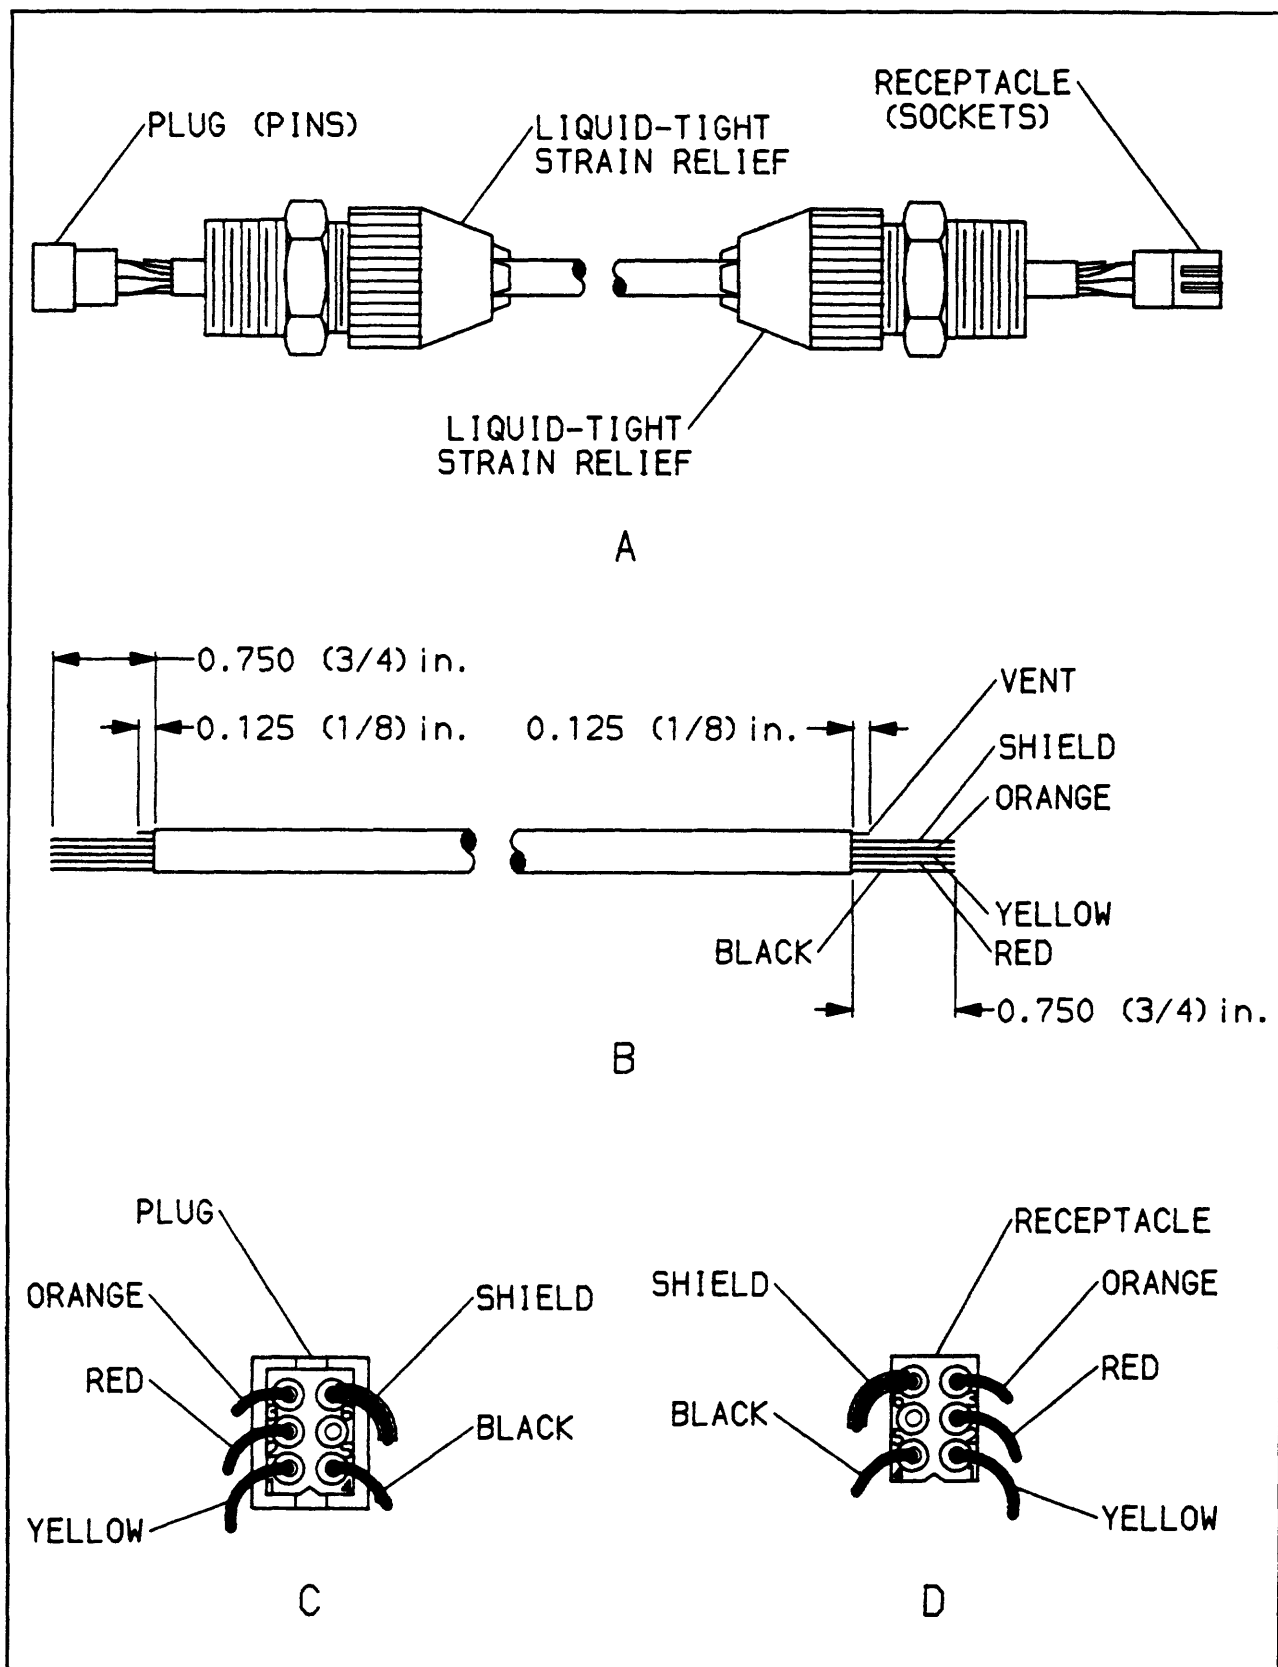
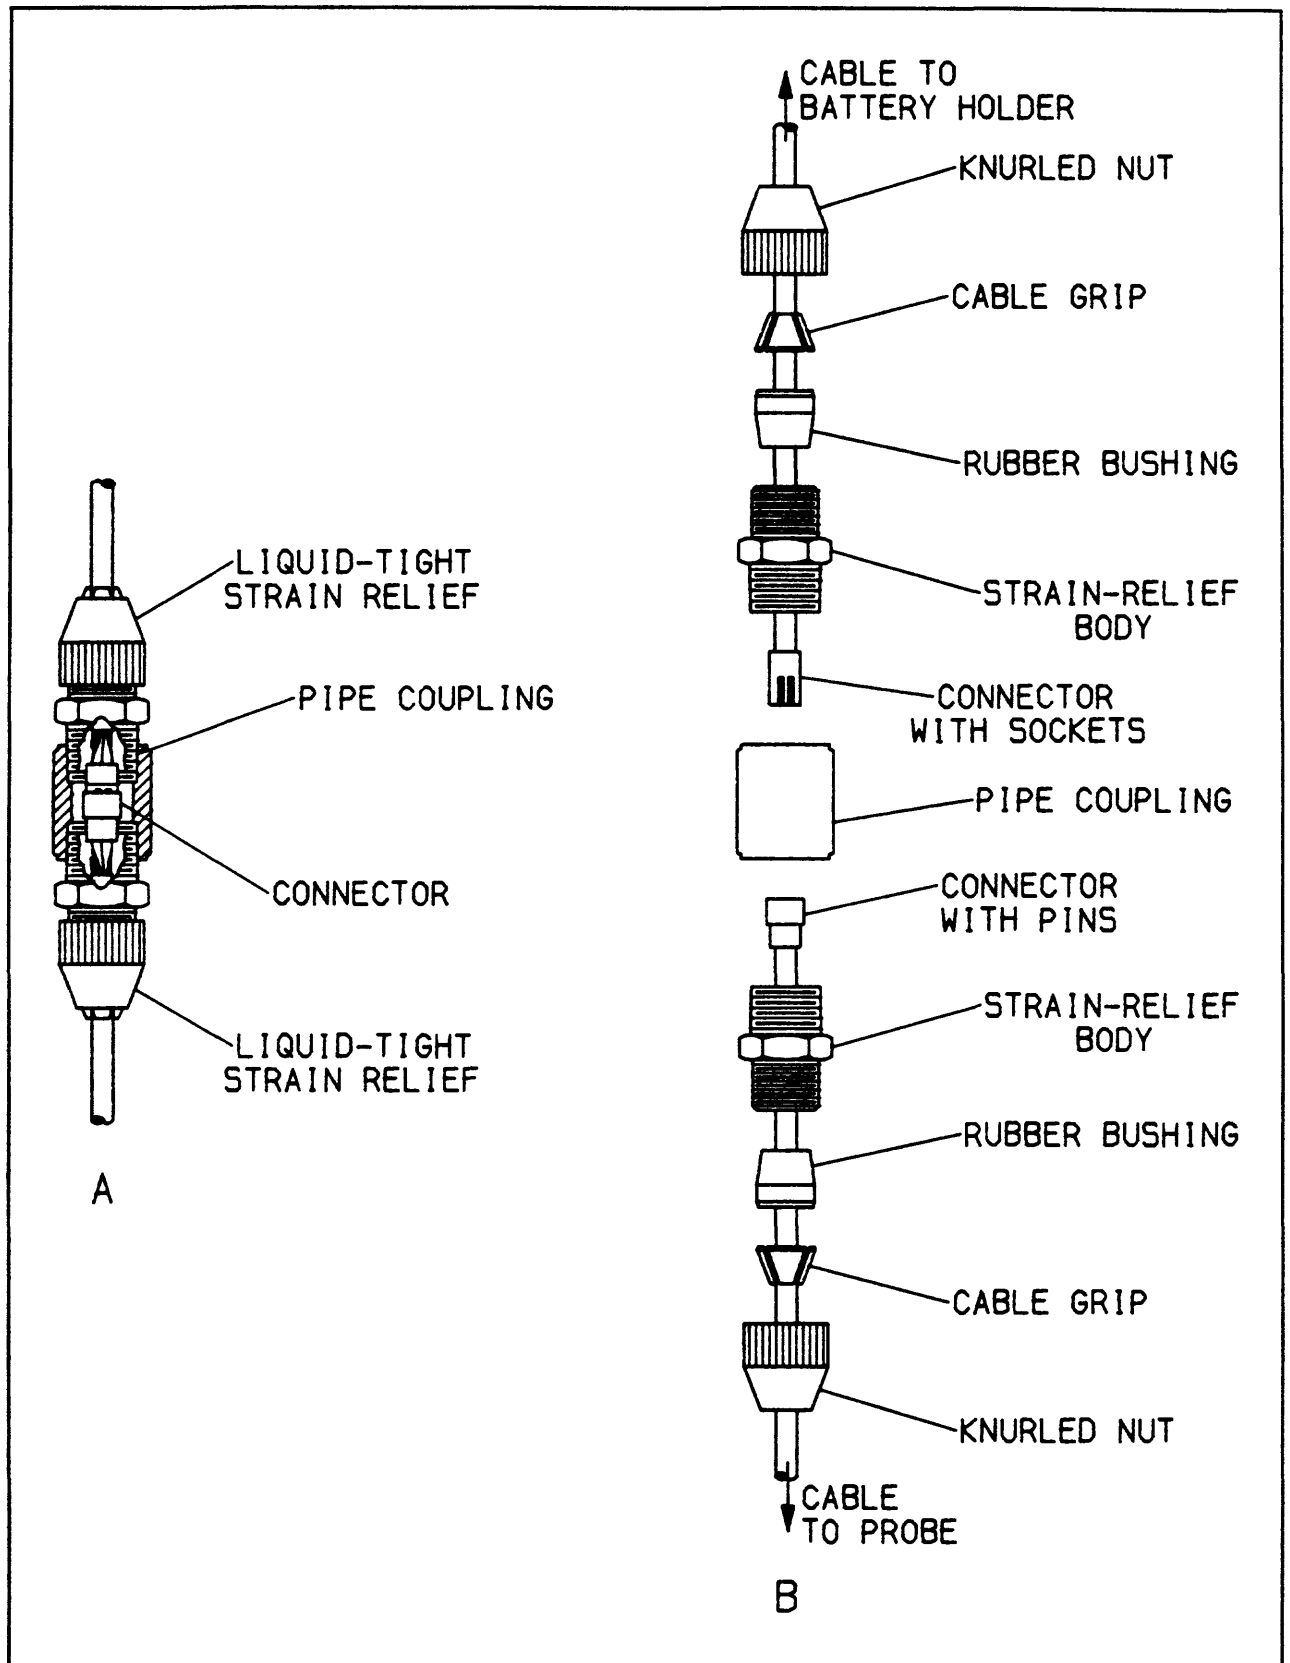

Figure 6.--Fabrication of a battery-pack cable.
Figure 7.--Assembled and disassembled splice joint.
Refer to figure 6 during the following assembly procedure:
2. Slide the two liquid-tight, strain-reliefs onto the cable as illustrated in figure 6-a. Be sure to slide all parts of each strain relief onto the cable with the proper orientation and in the proper order. Figure 7 shows the parts of a strain-relief being placed onto a cable.
3. Using the diagonal cutters and the knife, strip the outer covering from the vented cable, leaving the wires and vent tube protruding to the lengths shown in figure 6-b. Use care to prevent damage to the insulation on the individual wires.
8. Insert the pins with the attached wires into the plug (Molex No. 02-06-2061) in the positions shown in figure 6-c. The plug has numbers written on the wire side, and the color code is: 1 yellow, 2 red, 3 orange, 4 black, 5 no connection, and 6 ground wire. After insertion, test, by pulling on each wire, to be sure each pin has locked into place. If a pin does not lock into place, use a small screwdriver to press the pin firmly into the plug. If a mistake is made, an extraction tool will be necessary to remove the pin in error, or the whole connector must be cut off and thrown away.
10. Insert the sockets with the attached wires into the receptacle (Molex No. 03-06-1062) in the positions shown in figure 6-d. The receptacle has numbers written on the wire side, and the color code is: 1 yellow, 2 red, 3 orange, 4 black, 5 no connection, and 6 ground wire. Test, by pulling on each wire, to be sure each socket has locked into place. If a socket does not lock into place, use a small screwdriver to press the socket firmly into the receptacle.
Refer to figure 7 while performing the following tasks:
Refer to figure 7 during the assembly operation.